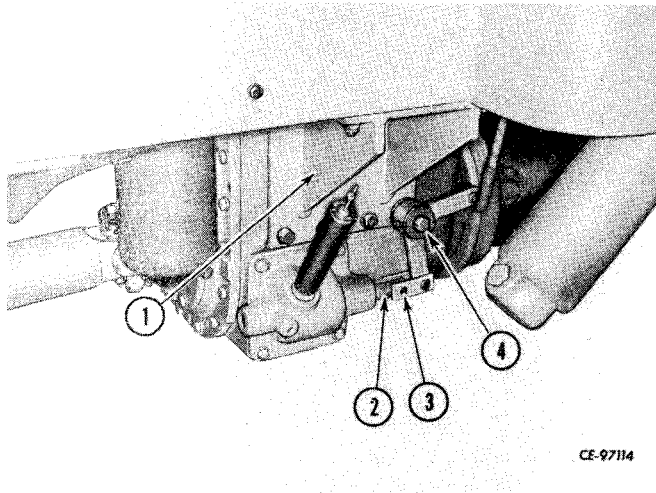

Figure 4-98
Connect axle disconnect linkage to RH transmission mount (1, Fig. 4-98) by installing pin and cotter (3) through shifter rail (2) and bolt (4) through mount.